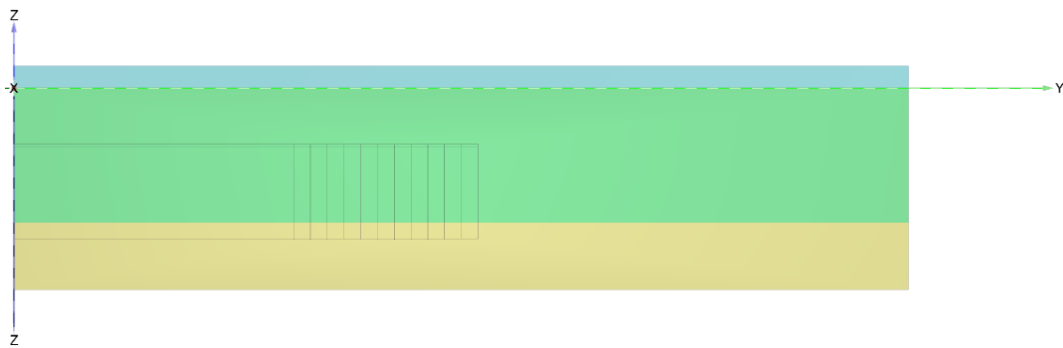

Figure 83: Pre-excavated Tunnel contour
1. Select the *Right view* to reorientate the model in order to obtain a clearer view of the of the tunnel as displayed in Figure 83 (on page 109).